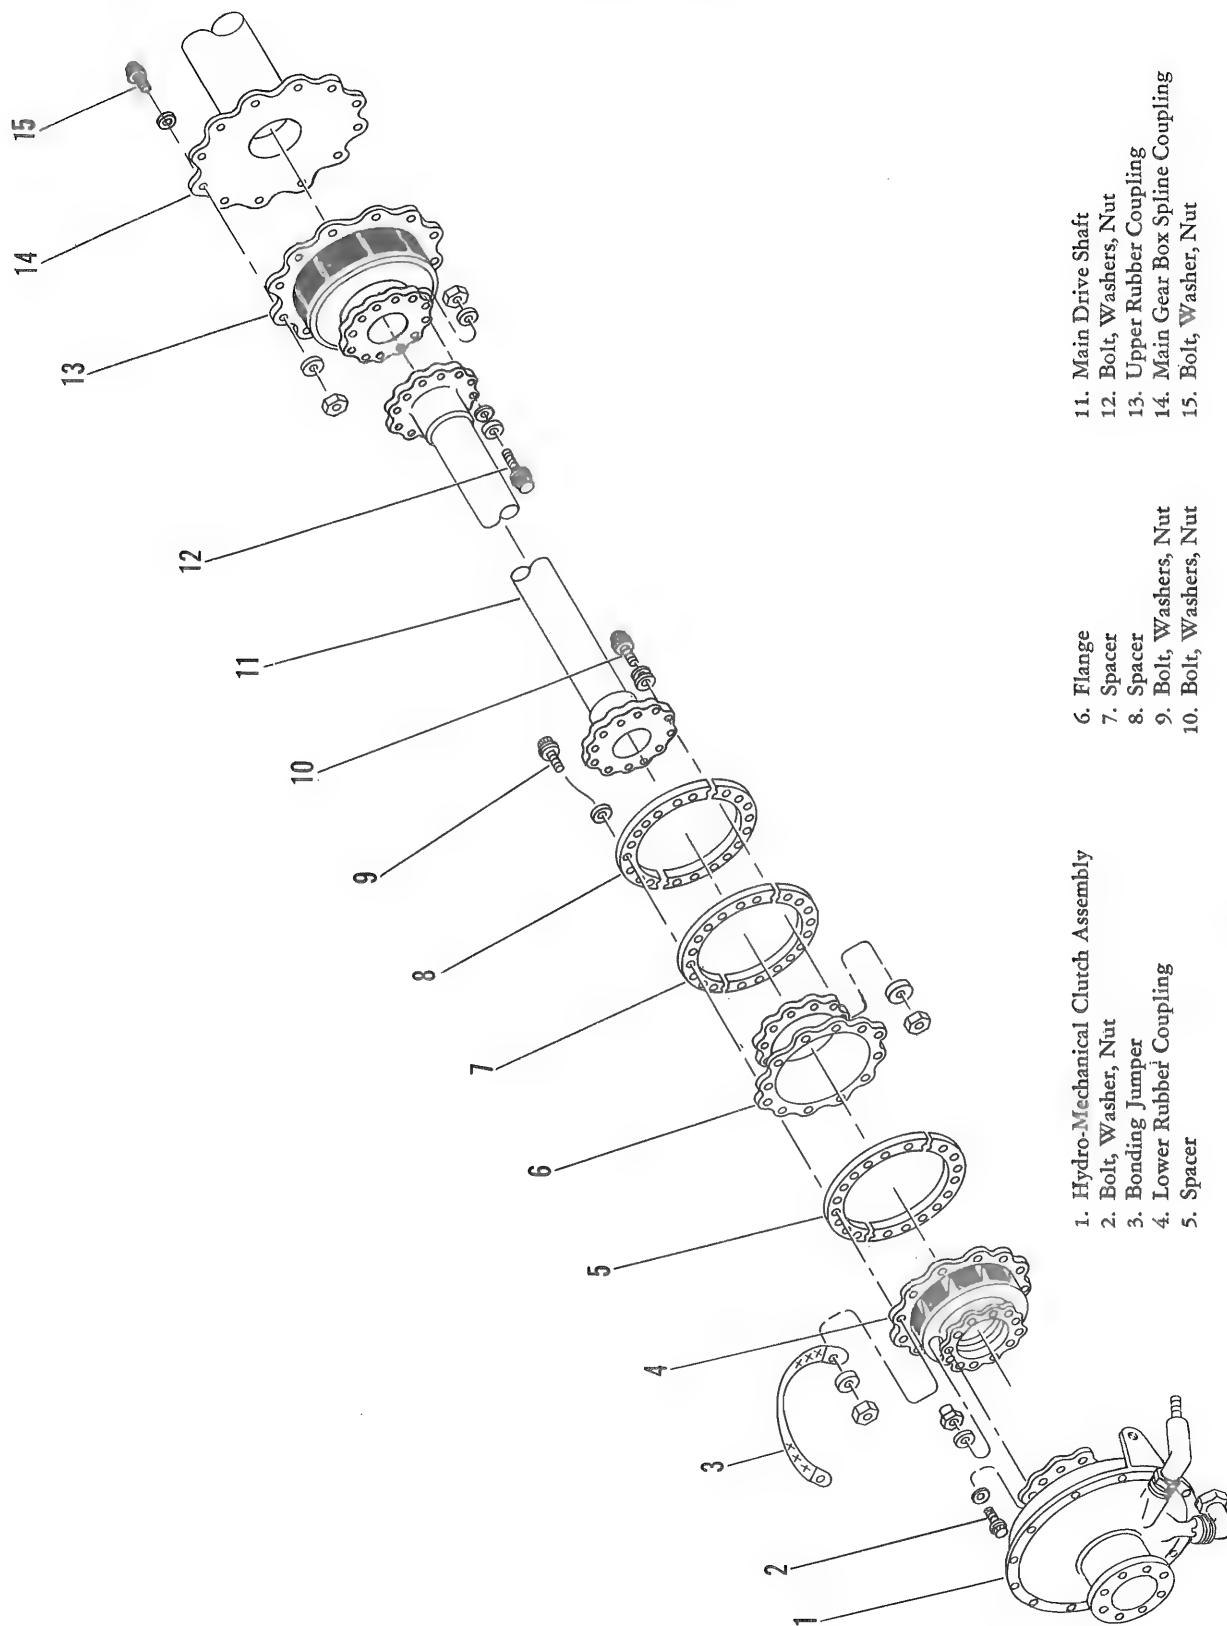
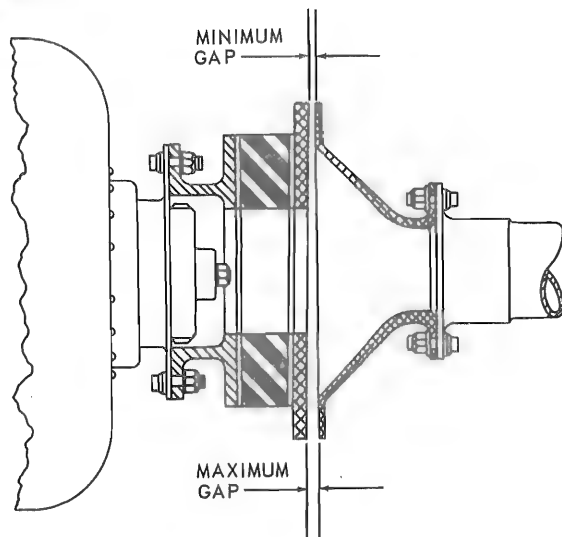

Figure 4-1. Main Drive Shaft Disassembled
Figure 4-2. Main Drive Shaft Alignment
b. Remove lower rubber coupling (4, figure 4-1).
c. Reach into clutch compartment and remove bolts, washers, and nuts (10) that secure flange (6) to main drive shaft (11). Remove bolts, washers, and nuts (9) and remove flange and spacers (5, 7, and 8) from lower rubber coupling (4).
d. Disconnect lower rubber coupling (4) from splined flange on hydro-mechanical clutch assembly (1). Remove rubber coupling and bonding jumper (3).
e. Hinge down power package (refer to paragraph 3-6), and remove lower rubber coupling (4) and
a. Install upper rubber coupling (13, figure 4-1) on upper end of main drive shaft (11). Tighten nuts to a torque of 275 to 325 inch-pounds. Install main gear box and rotor quick change unit. (Refer to paragraph 4-22.) Install upper rubber coupling (13) to main gear box spline coupling (14). Tighten nuts to a torque of 275 to 325 inch-pounds.
b. Raise main drive shaft (11) into tunnel and install upper end of shaft to upper rubber coupling (13). Tighten nuts to a torque of 275 to 325 inch-pounds. Hinge up power package (paragraph 3-168, steps e through ad.) and install lower rubber coupling (4) and flange (6) as outlined in step c. Install flight control rods in tunnel. (Refer to paragraph 3-168, steps n and o.) Do not change control rod length when installing control rods.
c. Position lower rubber coupling (4) and bonding jumper (3) on splined flange of hydro-mechanical clutch assembly (1), and install bolts, washers, and nuts (2). Tighten nuts to a torque of 275 to 325 inch-pounds.
d. Install flange (6) on end of drive shaft. Tighten nuts to a torque of 275 to 325 inch-pounds.
f. If measurements of gap between lower rubber coupling (4) and flange (6) that were taken while checking alignment are equal, select spacer or spacers (5, 7, and 8) required to fill gap within $\pm 1/16$ inch. If measurements of gap are unequal, select spacer or spacers (5, 7, and 8) required to fill gap at minimum dimension (figure 4-2) within $\pm 1/16$ inch.
Three spacers (5, 7, and 8, figure 4-1) are 0.064, 0.125, and 0.250 inch in thickness.
4-9. CHECKING ALIGNMENT. (See figure 4-2.) Any possible misalignment between the power package and the main gear box will show up as an out-of-parallel condition between the mating surfaces of the lower rubber coupling and the large flange which is secured to the lower end of the main drive shaft. This paragraph contains instructions for checking this condition and determining whether it is within acceptable limits.
a. Remove spacers (5, 7, and 8, figure 4-1) as outlined in paragraph 4-5, a through c.
b. Measure gap between mating surfaces of lower rubber coupling (4) and flange (6) at four equally spaced points on circumference. Record measurements for future use in selecting spacers.
d. If measurements are unequal, check again at several points to find minimum gap, and maximum gap. (See figure 4-2.) These points should be opposite each other. Maximum allowable difference